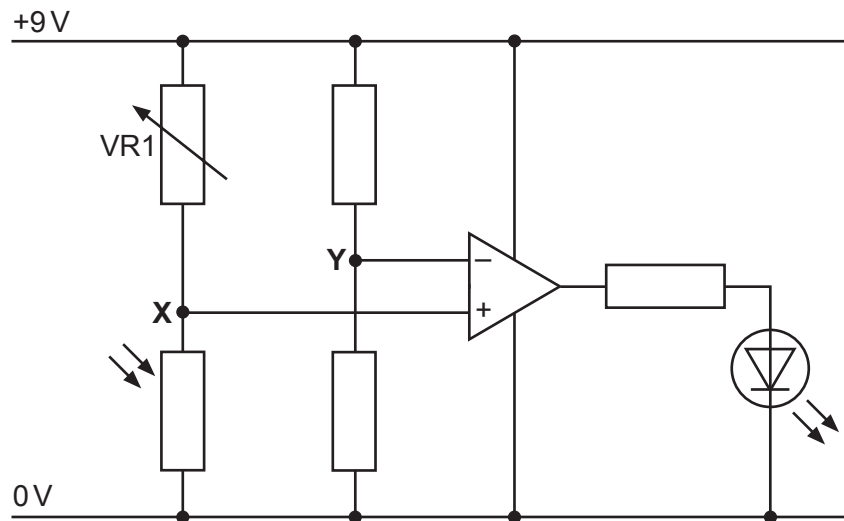

Fig. 12.2
- (v) An operational amplifier (OP AMP) will be used to compare the voltages at **X** and **Y** and provide an output that will switch on the LED. Fig. 12.2 shows the complete circuit.